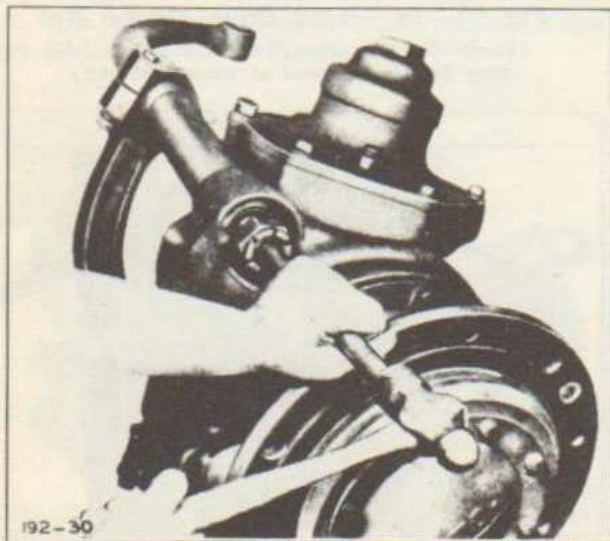

Fig. 23—Removing Steering Levers
Remove pinch bolt (72) and cross-steering lever nuts (73). Turn off nut (74). With aid of drift, loosen steering lever (75) and cross-steering lever (76), by striking threaded end of steering lever with hammer (See Figure 23). Remove steering levers together. Do not lose key (77).